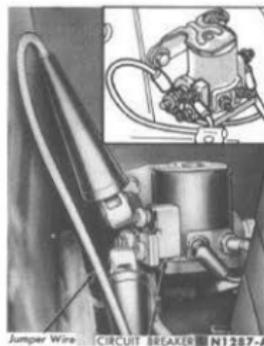

FIG. 116—Testing Circuit Breaker
**Circuit Breaker.** If there is no voltage at the black (feed) wire of the main harness connector, connect a jumper wire across the terminals of the circuit breaker (located on the starter relay) and operate the switch (Fig. 116). If the top motor operates,